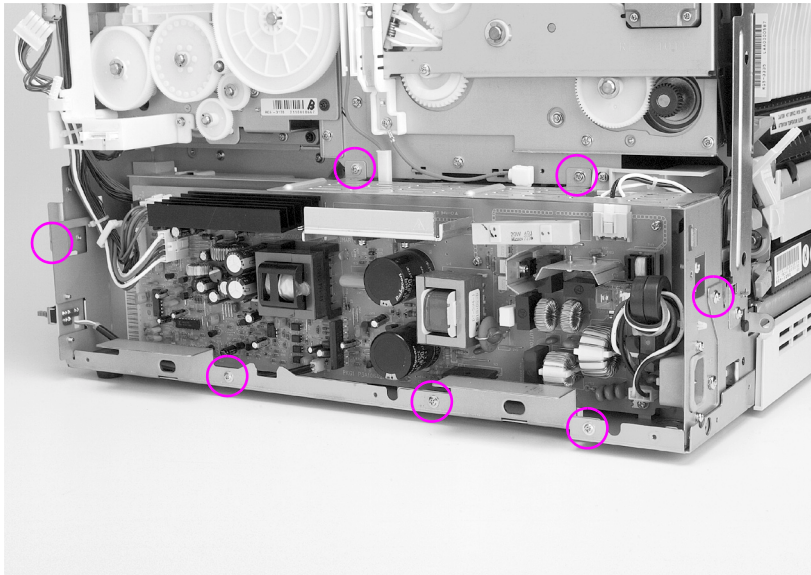

Figure 6-31 Power supply removal and replacement
- 4 Remove the four or seven screws (depending on the version of printer you are working on) from the power supply shown in Figure 6-31.